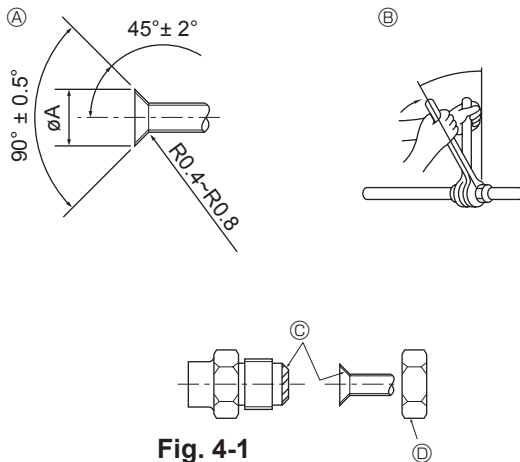

Fig. 4-1
Ⓐ Flare cutting dimensions (Fig. 4-1)
Ⓑ Flare nut tightening torque (Fig. 4-1)
4.2. Connecting pipes (Fig. 4-1)